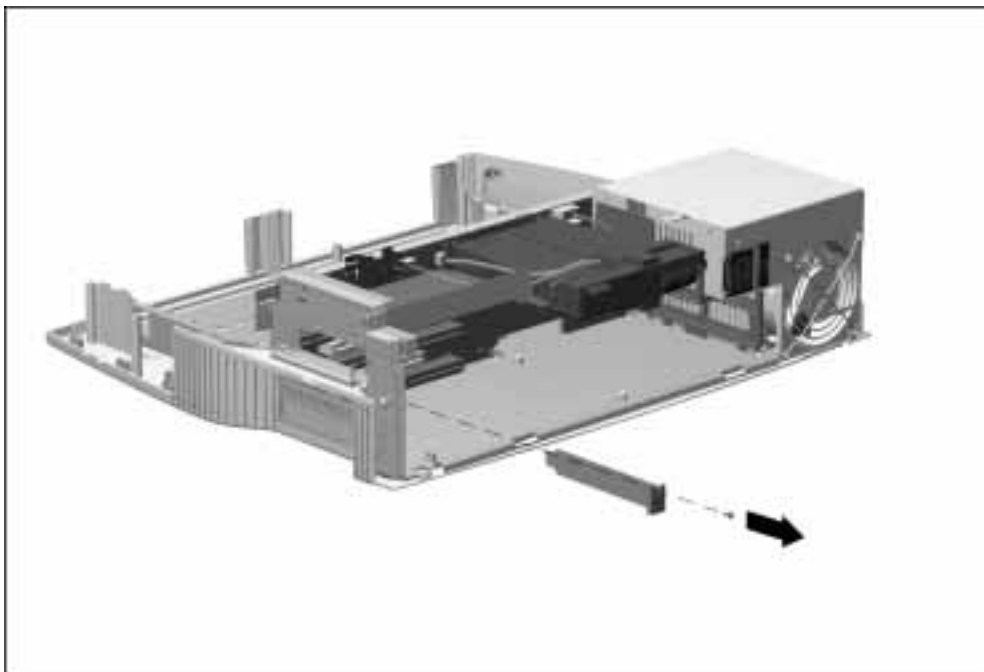

Figure 5-48. Removing an Expansion Slot Cover
3. Remove the screw securing the expansion slot cover to the base assembly (Figure 5-48). This screw is used later to secure the newly installed expansion board.